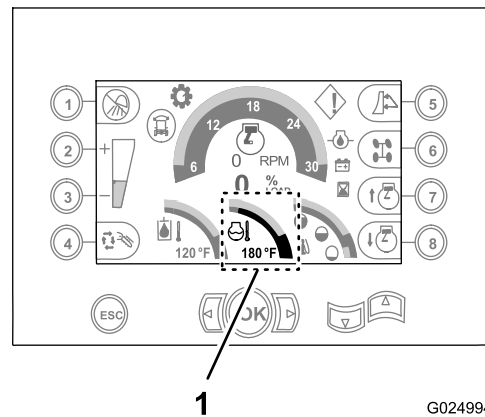

Figure 108
- C. Operate the engine for 5 minutes or until the coolant temperature in the command-center display indicates 82°C (180°F), then stop the engine (Figure 108).